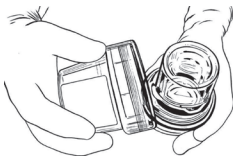

Figure 3: Remove the outer polycarbonate container top
8. Remove the outer polycarbonate container top by rotating in the anticlockwise direction (Refer figure 3). Present the inner polycarbonate container to the sterile operating person. Note that the inside of